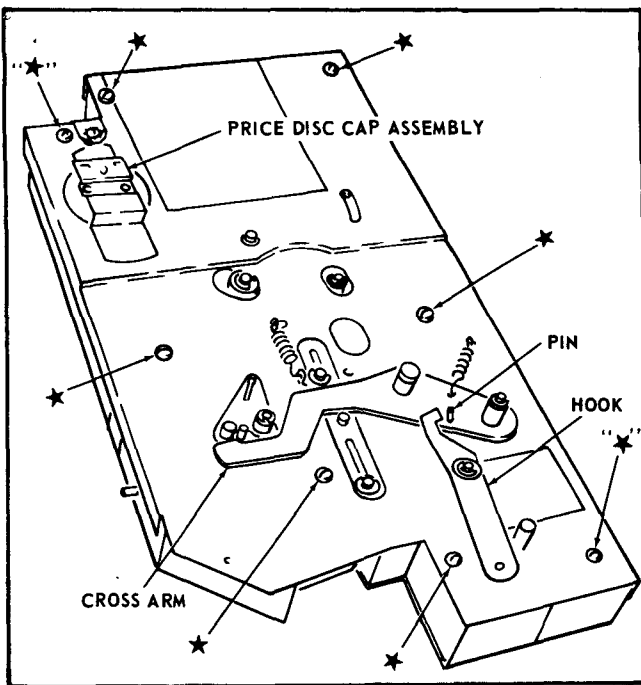

FIGURE 2
Before Replacing Cover Assembly, pull the Cross Arm down and engage the Cross Arm Pin under the Hook on the Cover. See Figure 2.
65. Install one of the No.6-32 x 1/4" Self-tapping Pan Head Screws, removed in step 4 in the upper left hand corner of the cover (above the Recorder Assembly) and one of the Screws in the lower right hand corner of the Cover. See Figure 2. Screws indicated by an "*".